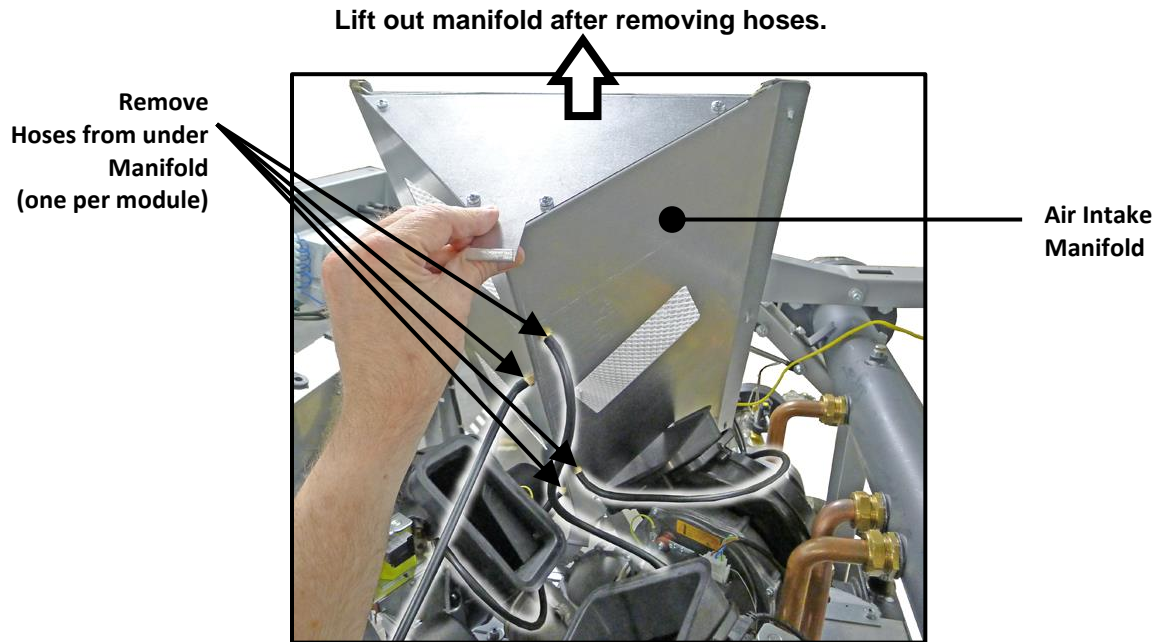

Figure 8-10: Removing Red Hoses and Manifold from Unit (Step 6)
6. Remove the rubber hoses (quantity depends on model) from bottom side of manifold (highlighted in Figure 8-10), then lift entire manifold from the unit.